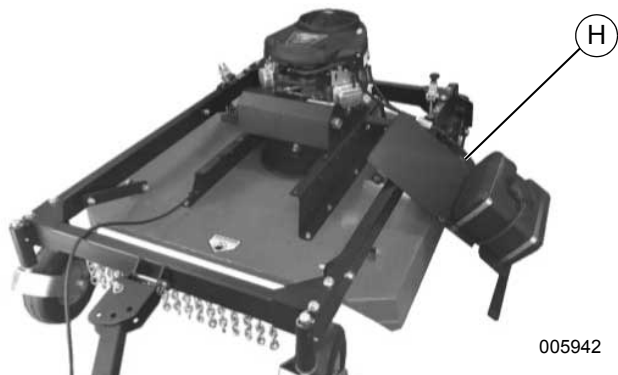

Figure 4-10. Gas Tank Plate Removed
- See Figure 4-10. Lift gas tank plate (H) and position gas tank plate on fuel line side of the machine.